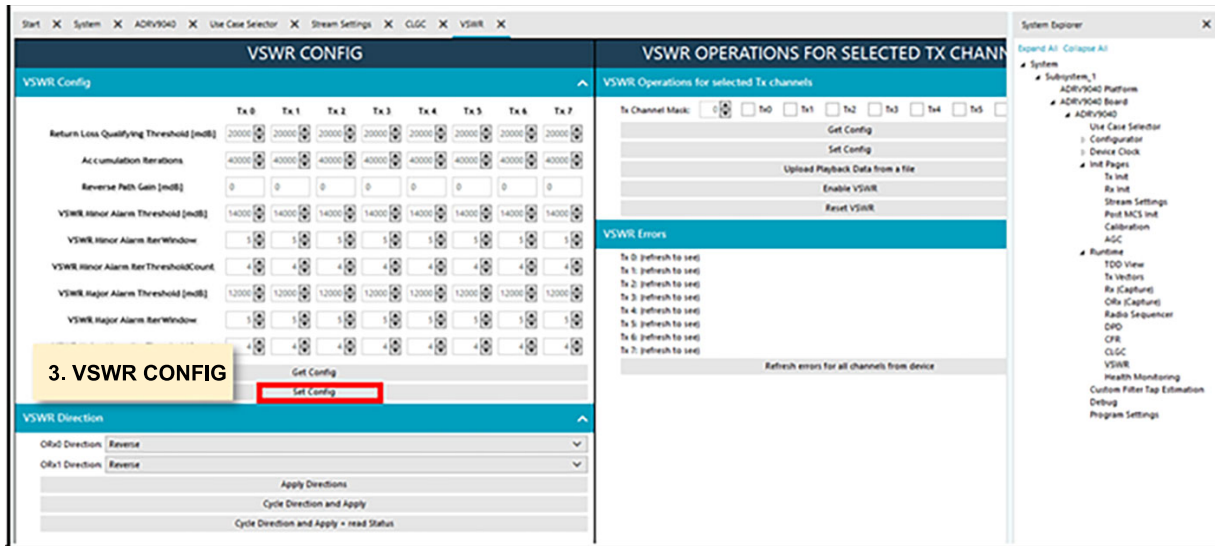

Figure 112. VSWR Configuration
3. Enter the **VSWR Config** parameters like return loss qualifying threshold, accumulation iterations, and major and minor alarm thresholds as per testing, and then select **Set Config** as shown in Figure 112. The **VSWR Config** provides test options by programming the thresholds. Maximum and minimum ranges for all the **VSWR Config** parameters are defined in the system development user guide (SDUG).